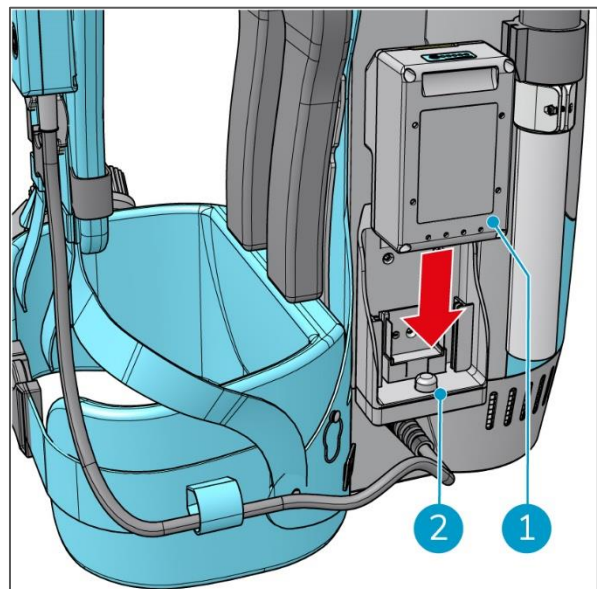

Figure 12
1. Insert the battery (Figure 12, pos 1) in the slot (Figure 12, pos 2), until you hear a "click". The battery is now fixated. Repeat this for the second battery.